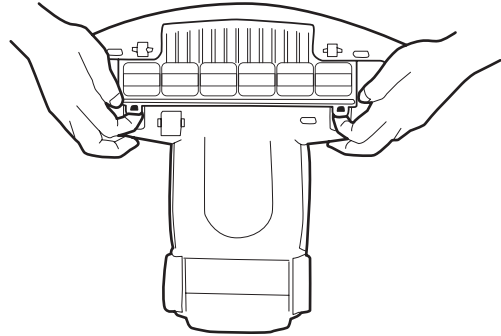

Figure 8
1. Detach the protective grill on the bottom of the base unit by pulling up the two tabs at the back of the covering. Set the cover aside. (See Figure 8.)